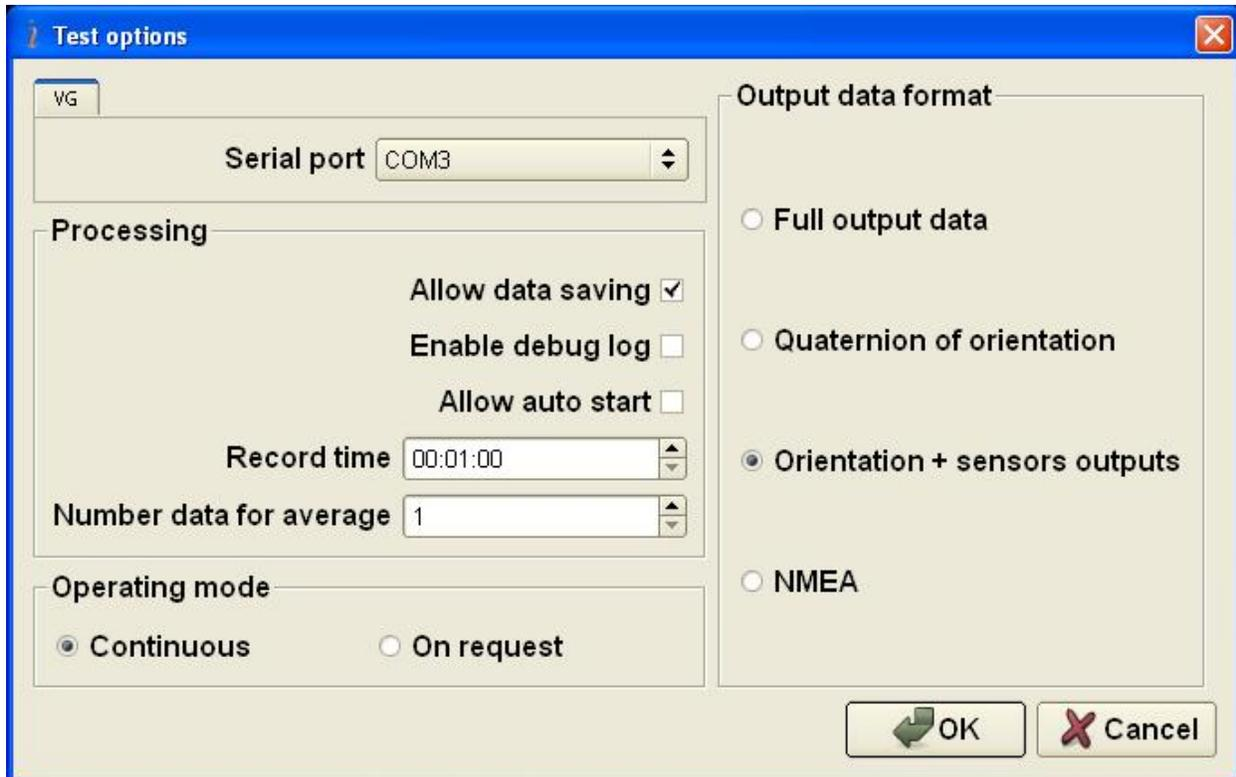

Fig. 4.1
To set operation parameters of the VG, COM port, format of output data, select «**Test options...**» (Fig. 3.7) from the «**Options**» menu (or click button). A «**Test Options**» dialog box (Fig. 4.1) will be opened.
e) Format of output data “Output Data Format: ...”. This format is set by operator in the «**Test Option**» window (Fig. 4.1).